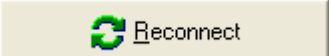

Figure 3.4
- set the parameters in the window shown in **Figure 3.4**;